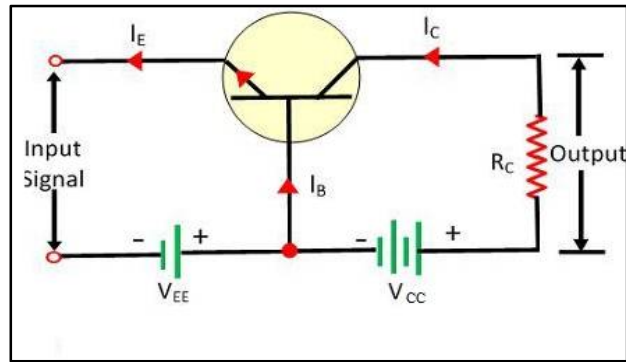

Fig.2.22 (b): Working of Transistor in common base mode
1. Consider an NPN transistor biased by using two batteries V_{EE} & V_{CC} as shown in fig.2.22. The emitter base junction is kept at forward biased by battery V_{EE} & collector biased junction is kept as reverse biased junction by battery V_{CC} .
2. As emitter base junction is forward biased the electron from emitter (E) moved towards base (B) & holes from base (B) moves towards emitter (E). Since emitter is highly doped & base is lightly doped, the emitter current I_E is practically due to electron moving from emitter to base.